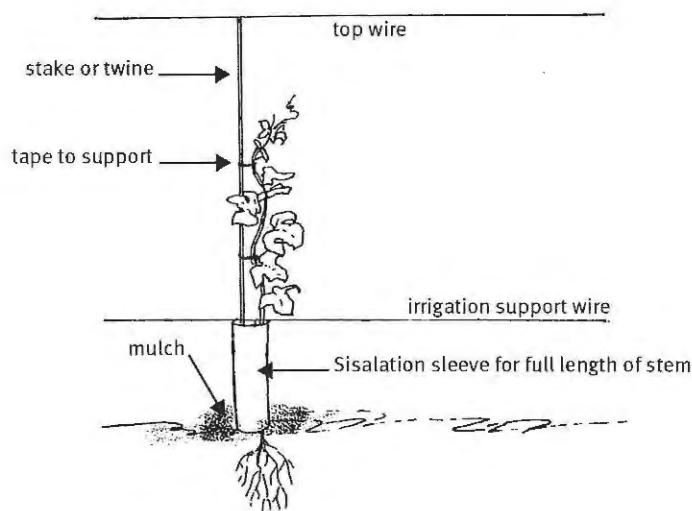
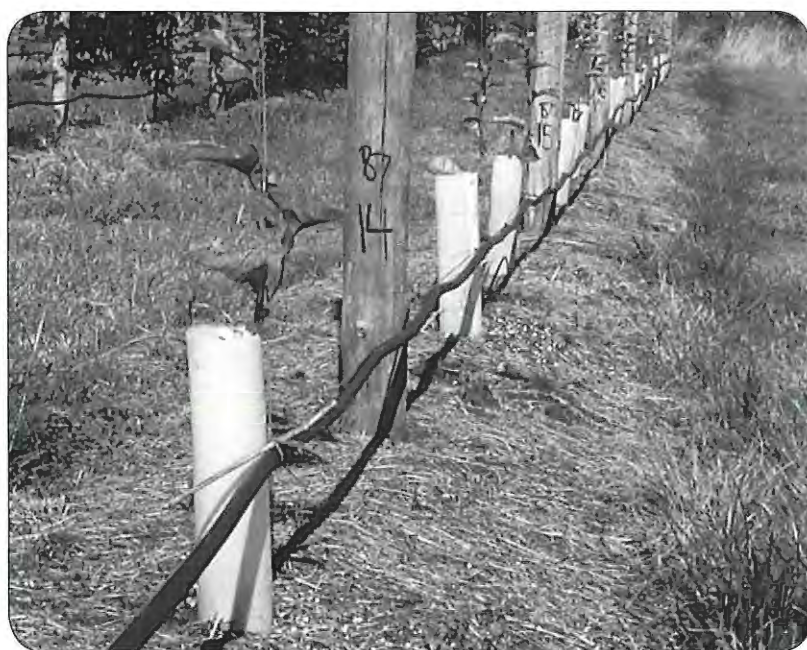

Figure 7.7 A planted vine showing staking and the Sisalation guard
Figure 7.8 Plastic stem guards protect the stems of young vines
6. Attach the vine to a long stake, or attach it to a short stake and tie a string from the stake to the top wire. Tape the vine to the stake or string at three or four places to hold it in place until it is established (see Figure 7.7).
7. Loosely wrap the base of the vine including the stake with one thickness of builders Sisalation with the silver side facing outwards (see Figure 7.7). Pieces 10 centimetres wide and 50 centimetres tall are generally suitable. Sisalation is cheap, easy to use, durable and reusable. White plastic paint is sometimes used as an alternative. Wrapping in Sisalation reduces suckering and protects the bark from sunburn and damage by animals and herbicides. Alternatively, ready-made stem guards (see Figure 7.8) can be purchased and are quick and easy to install. Translucent plastic vine guards (400 millimetre diameter, as used in the grape industry) help to prevent damage to young vines and provide an ideal microclimate for successful vine establishment. Regularly inspect inside the guards for ant nests and, where found, spray the nests with an appropriate insecticide (see Appendix A).